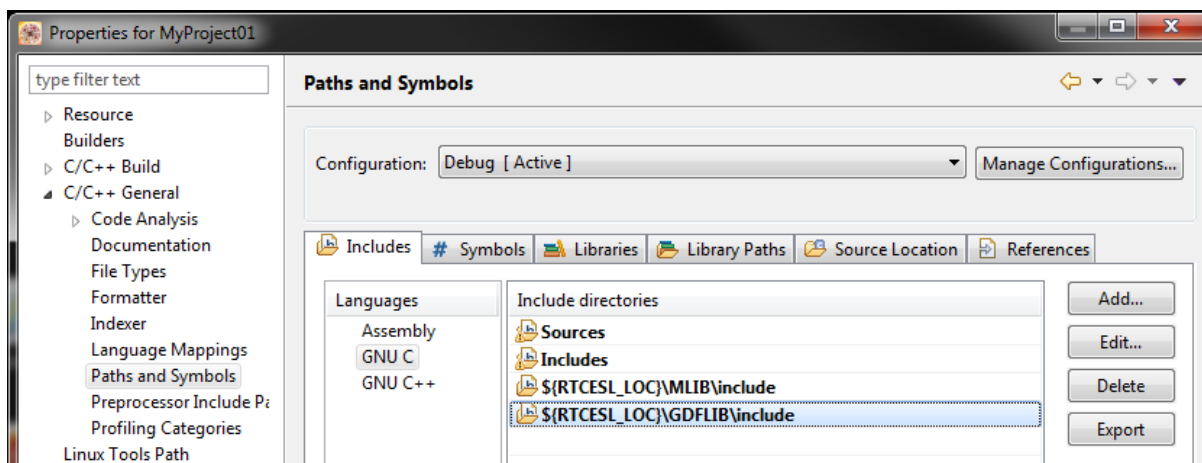

Figure 1-16. Compiler setting
15. In the right-hand dialog, select the Includes tab, and click GNU C in the Languages list. See Figure 1-16.
20. Click OK, and you will see the paths added in the list. See Figure 1-16. Click OK.